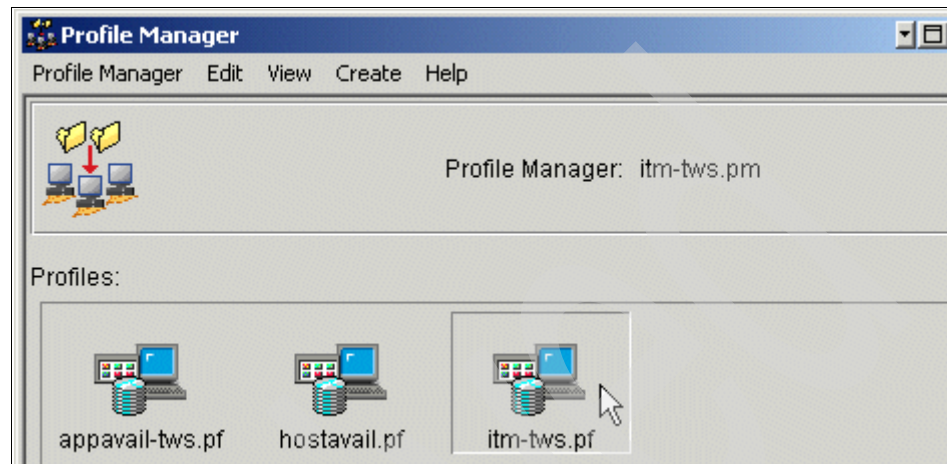

Figure 9-99 Opening the itm-tws.pf Tivoli Monitoring profile
1. From the itm-tws.pm profile manager, double-click the itm-tws.pf Tivoli Monitoring profile as shown in Figure 9-99.